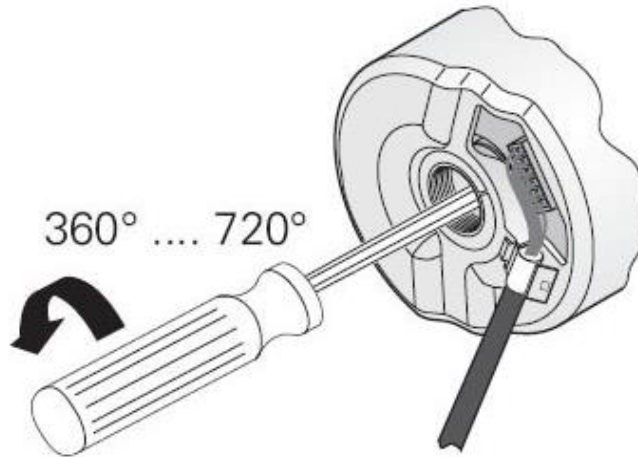

Figure 13: Loosen M5 bolt.
4. Rotate counterclockwise the bolt M5x50 1-2 turns with hex wrench 4mm, install the bolt M10 against the encoder with hex wrench 8mm. See Figures 13 and 14.